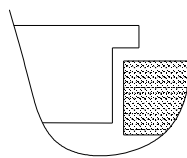

Fig. 2
2) Put the induction cooker into the hole of the table-board. Make sure the top cover is supported by the edge of the hole (see Fig. 2).